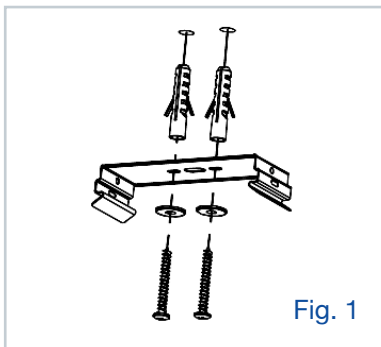
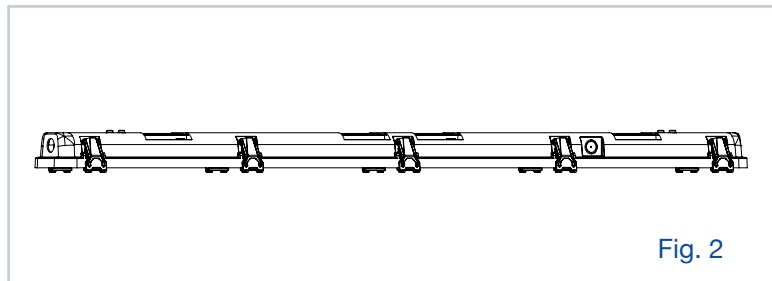

Fig. 1
Fig. 2
1. Use the provided mounting screws to secure the Surface Mounting Brackets to Mounting Surface (Fig.1). For 4 ft fixtures the recommended Surface Mounting Bracket distance from center to center is 31.69" (Fig. 2)